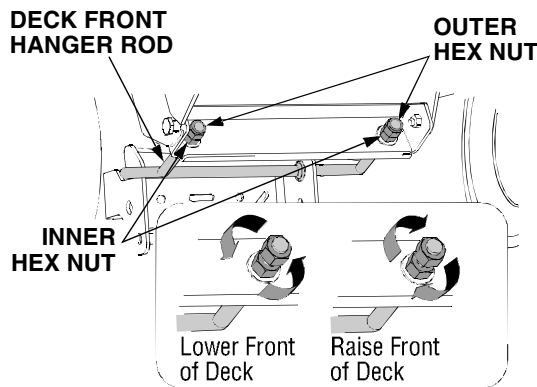

Figure 5-10
4. From the front of the tractor, loosen the outer nuts on the deck front hanger rod, and turn them away from the inner nuts. (See Figure 5-10).